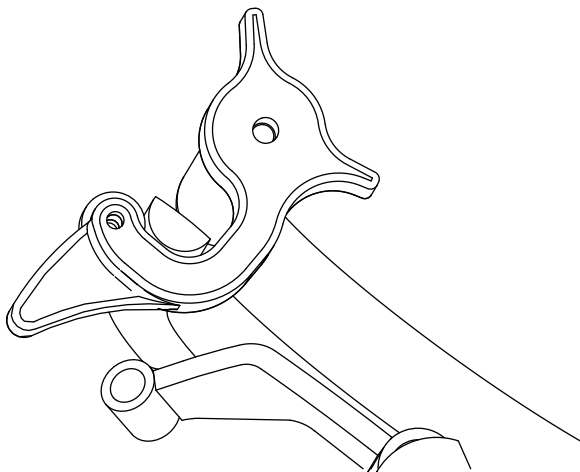

Figure 21
- With rear of machine still on jack stands and engine running at full throttle, disengage the park brake and move the speed control lever to the midway position. Move the respective drive lever upward until it reaches the neutral position and engage neutral lock latches (Figure 21). If the tire rotates in either direction, the length of the drive lever link will need to be adjusted.